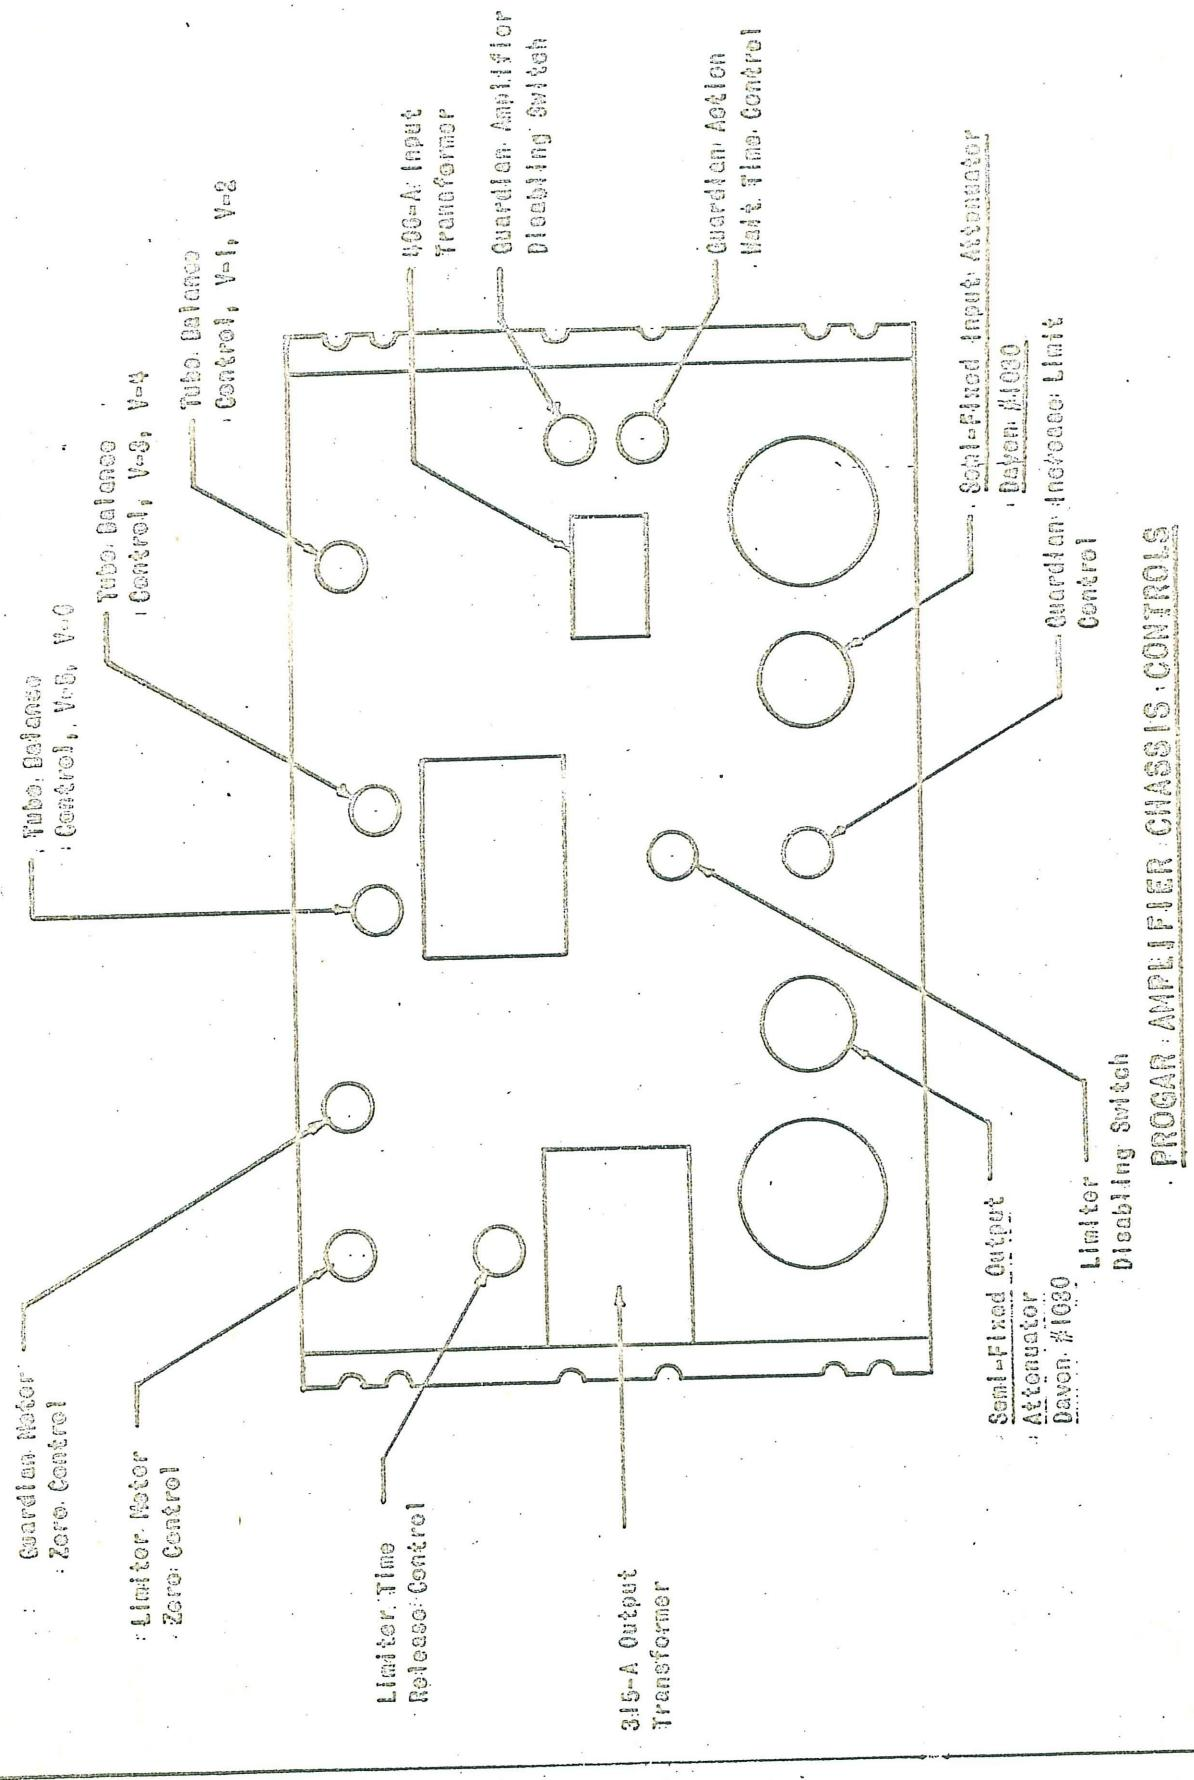
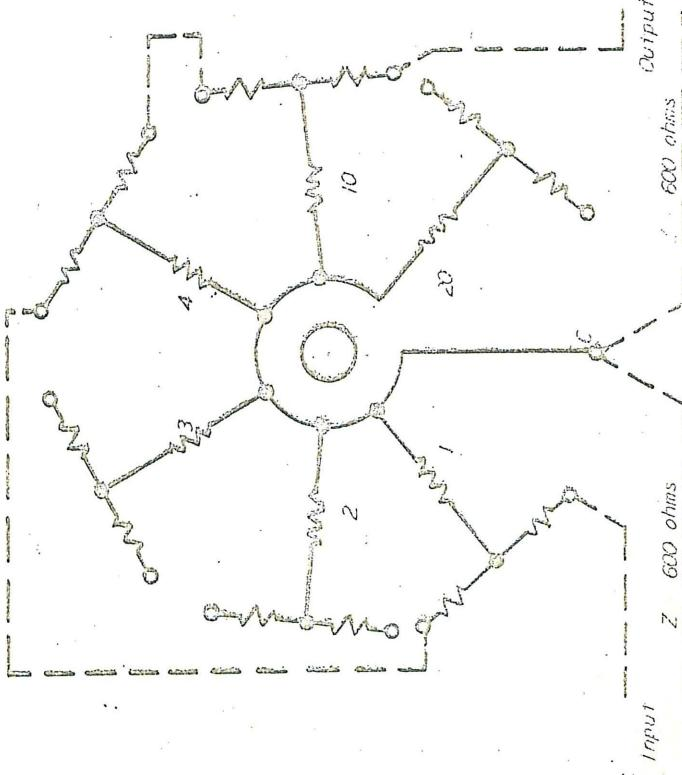

Figure 1
Figure 2
### Chassis Controls (see Figure 1)
- e) Place the Metering Switch (front panel) at LIM and adjust the Limiter Meter Zero Control (rear of chassis, see Figure 1) so that the Limiter Meter reads zero. (Full deflection to right.) This meter is used for checking tubes as well as for showing limiter action.
- f) Balance the plate currents of the two 1612 tubes (V-3 and V-4) using the Tube Balance Control for V-3, V-4 (rear of chassis, see Figure 1).
After selecting "gas free" tubes, place all tubes in their proper sockets and allow at least five minutes for the PROGAR to warm up. After the warm-up period adjust the Limiter Meter Zero Control so that the Limiter Meter reads zero and adjust the Guardian Meter Zero Control so that the Guardian Meter reads zero. (Zero controls are located at the upper right, rear of chassis. See Figure 1)
An adjustable and a semi-fixed attenuator are provided in the circuit ahead of the input transformer, to compensate for the various line levels encountered in broadcast and recording studio operation. The variable attenuator is located on the front panel of the PROGAR and has a range of 15 db in .5 db steps. The semi-fixed attenuator (Daven #1030) is located under a dust cover on the rear of the PROGAR chassis (see Figure 1 for exact location) and can be strapped for any attenuation from 1 to 40 db in steps of 1 db. This attenuator is not connected at the factory and must be connected at installation time in accordance with the anticipated line level (see Figure 2, Page 9, for strapping information).
- II. Semi-Fixed Attenuator (Daven #1030 located on rear of chassis -- see Figure 1): Strap this attenuator in accordance with following table and diagram.
- II. Strap semi-fixed output attenuator (Daven #1030) in accordance with information found in Figure 2. (Instructions for strapping input and output pads are identical.)